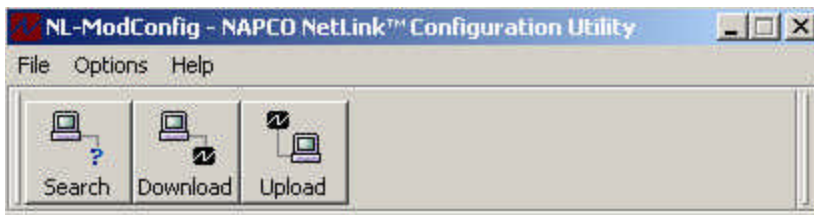

Figure A2.
- 3) Click **Search** button. Refer to figure A2.